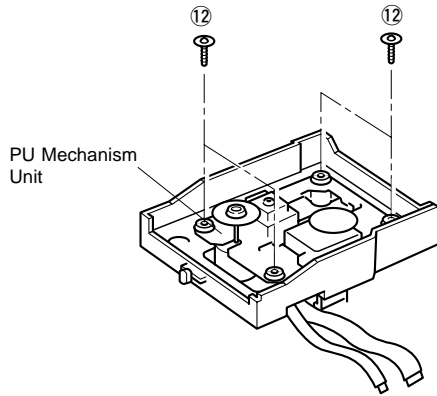

Fig. 7
b. Remove 4 screws (⑫) and then remove the PU Mechanism Unit as shown in Fig. 7.